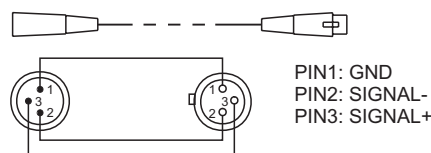

Fig.4
(4) DMX Signal wire and connector link(see Fig.4):